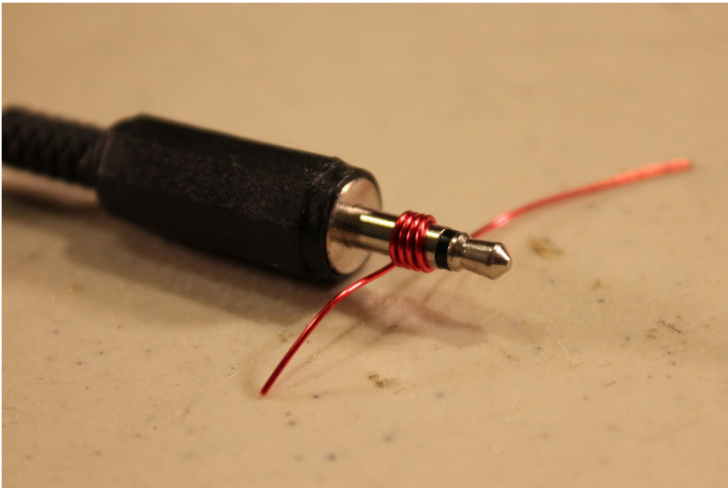

Figure 10
- Use the plug from your headphones to wrap the wire around. Make 5 turns. (See figure 10)